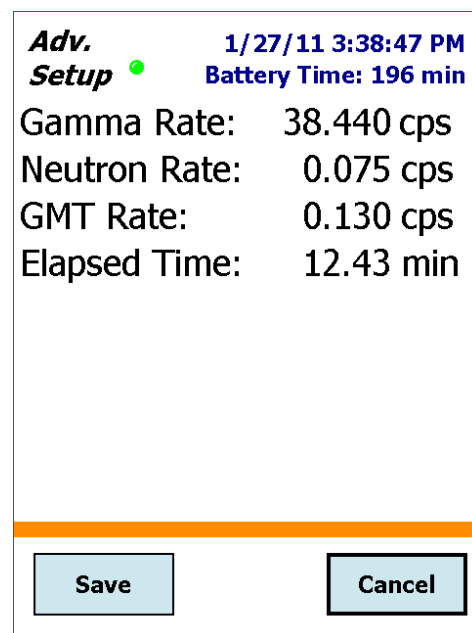

Figure 16. Collect Background for At Least the Specified Minimum Time.
- Tapping the **Run a Background** button opens the screen shown in Fig. 16 and automatically starts the background acquisition.